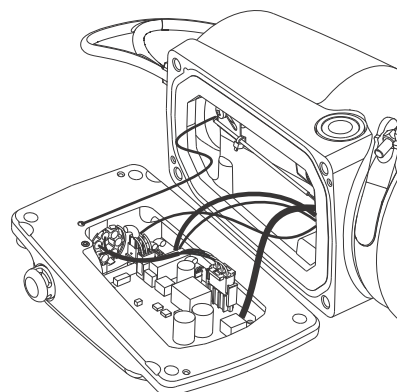

Fig. 16 Correct opening of the electronic unit
2. Place the pump on the side with the level sensor pointing upwards. See fig. 16.